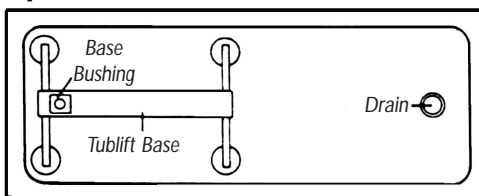

Figure 5
2. Place the base into the tub as far to the rear as possible (Figure 5). Wet the suction cups.